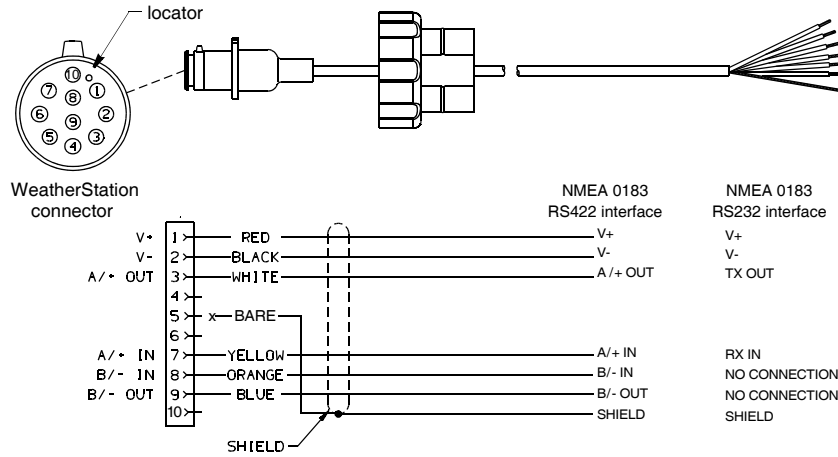

Figure 6. NMEA 0183 WeatherStation Cable—no heater
If your WeatherStation cable does not have a connector on the display end, it must be hard wired. Referring to the owner's manual that came with your display, connect the colored wires as shown in either Figure 6 or 7.
2. Strip 60mm (2-1/2") of the outer jacket and foil shielding from the cut end of the cable (see Figure 6 or 7).